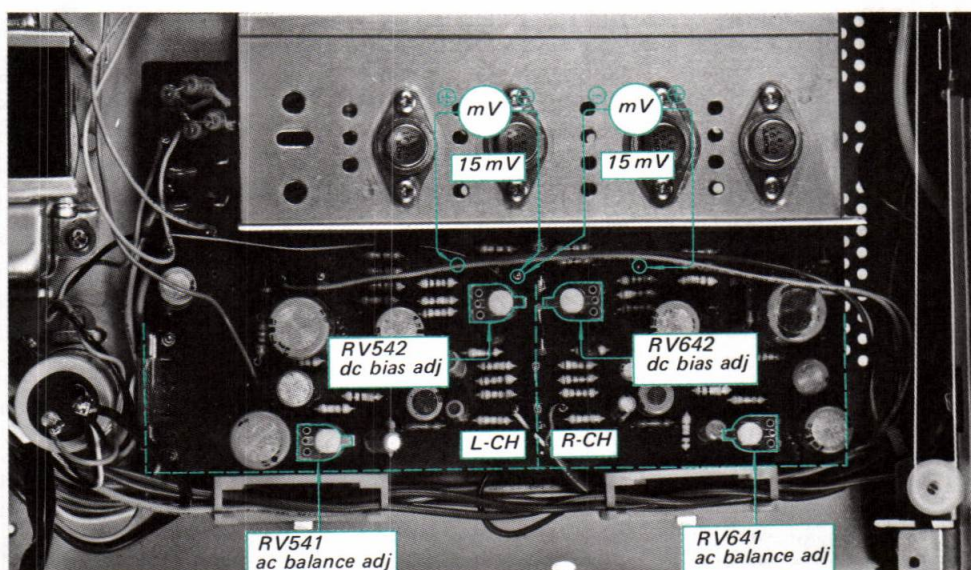

Fig. 3-14. Dc millivoltmeter connection and parts location
To avoid accidental power transistor damage, increase the ac line voltage gradually, using a variable transformer, while measuring the voltage across the test points (emitter of Q508 to ground). See Fig. 3-14. Check to see that the reading does not exceed 15 mV. If it does, turn off the power as soon as possible, then check and repair the trouble in the power amplifier board.
2. Connect the dc millivoltmeter across the test points as shown in Fig. 3-14.
3. Set the adjustable resistors (Fig. 3-14) on the power-amplifier board as follows: